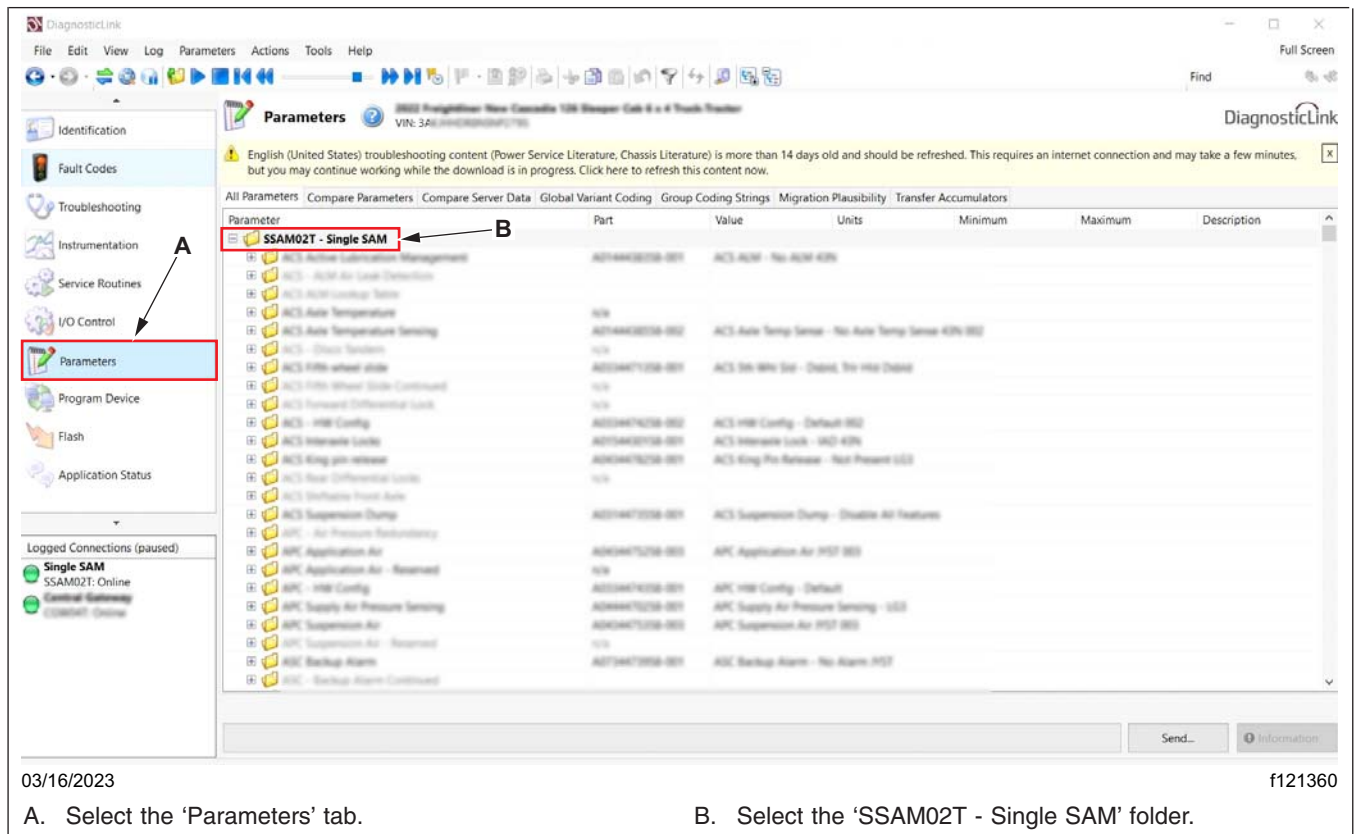

Fig. 2, Selecting the SSAM02T Folder
7. After the server data download is complete, go to the 'Parameters' tab, then select the 'SSAM02T - Single SAM' folder. See Fig. 2.